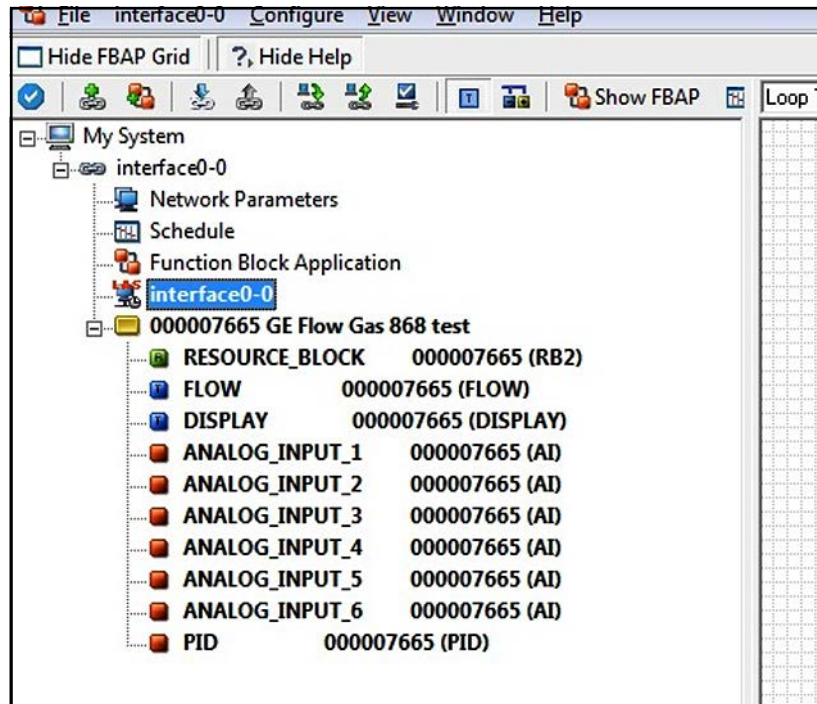

Figure 48: Configuration Utility Setup Example
Figure 48 below shows the Configuration Utility with a flowmeter on the network (Panometrics Flow-XMT).
1. Double click on the AI block for which you wish to set the units (in the tree under GEFLOW-XMT; see *Figure 48* on page 76).
1. Double click on the FLOW transducer block (in the tree under GEFLOW-XMT; see *Figure 48* on page 76).